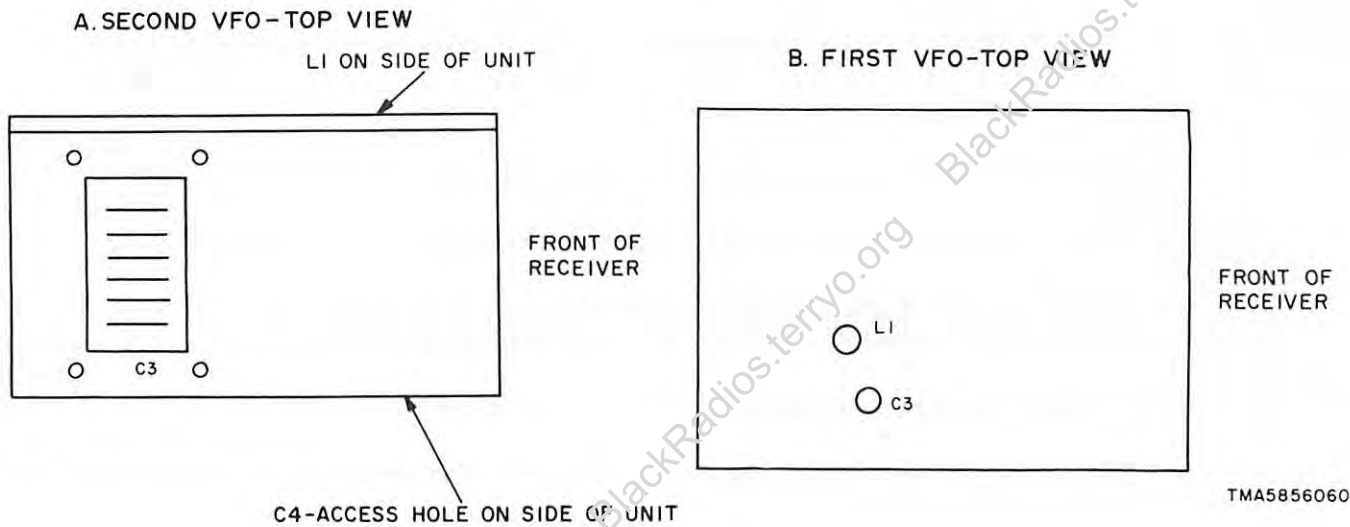

FIGURE 7-8 1ST AND 2ND VFO ALIGNMENT PARTS LOCATION
7-8. 2nd VFO Alignment (fig. 7-8)
7-9. 1st VFO Alignment (fig. 7-8)
- (3) Measure the output at P402 with the RF voltmeter. An indication of approximately 200 millivolts is normal.
- (4) Connect the frequency counter to P402, and adjust L401 (fig. 7-8) for an indication of 41.5 MHz on the frequency counter.
- (5) Adjust the MHz control for an indication of 30 on the MHz portion of the frequency indicator.
- (6) Adjust C403 for an indication of 70.5 MHz on the frequency counter.
- (7) Repeat the procedures in (4) above at 01 on the frequency indicator and those in (6) above at 30 on the frequency indicator until the correct frequencies are obtained.